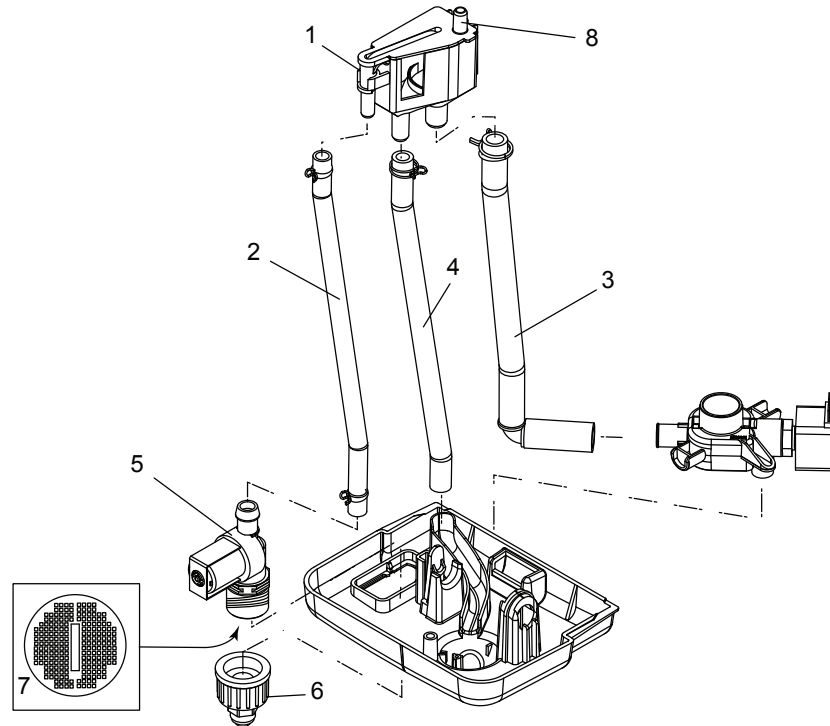

Figure 12 - Internal Plumbing Components
1. (Recommended) Remove hoses and clamps from the fill cup. Refer to Figure 12 on page 30.